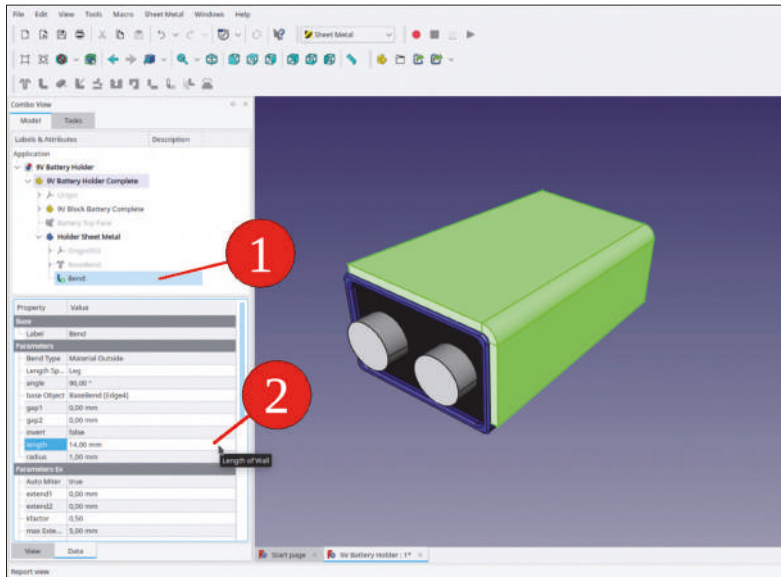

Figure 5-8
11. In the tree view, click the new wall 'Bend' and set its length property to 14 mm (Figure 5-8).